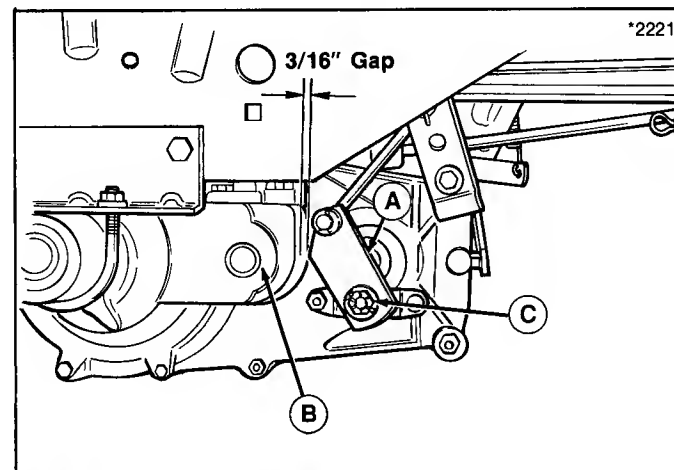
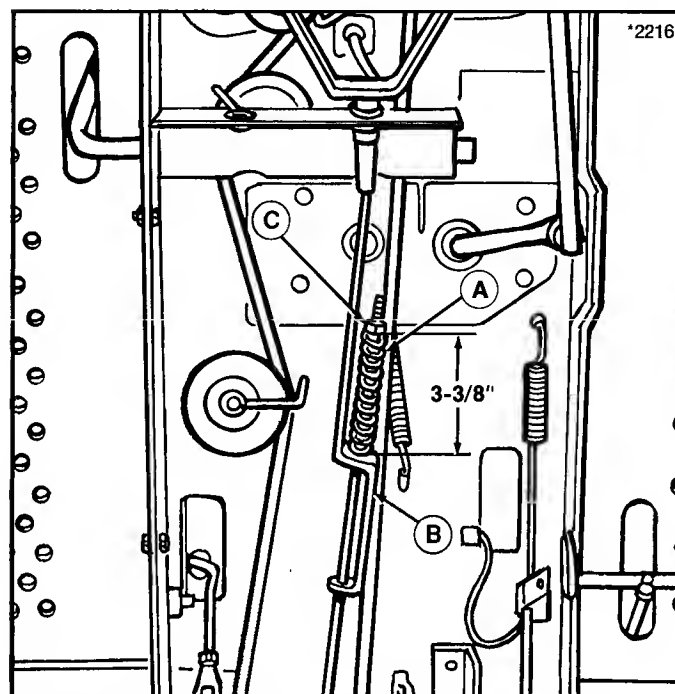

Figure 30. Brake Adjustment
Figure 31. Brake Spring Adjustment
1. With clutch/brake pedal released, rotate the brake cam (A, figure 30) forward until it stops. There should be 3/16" gap between transaxle housing (B) and rear point of brake cam.
2. If adjustment is required, remove cotter pin and turn adjusting nut (C) until proper 3/16" clearance is achieved. Turning the nut in will decrease clearance and turning the nut out will increase clearance. Reinstall cotter pin after adjustment.
3. Depress the clutch/brake pedal and latch parking brake over footrest. When compressed, the brake spring (A, figure 31) should be 3-3/8", measured between the rod guide (B) and adjusting nut (C).